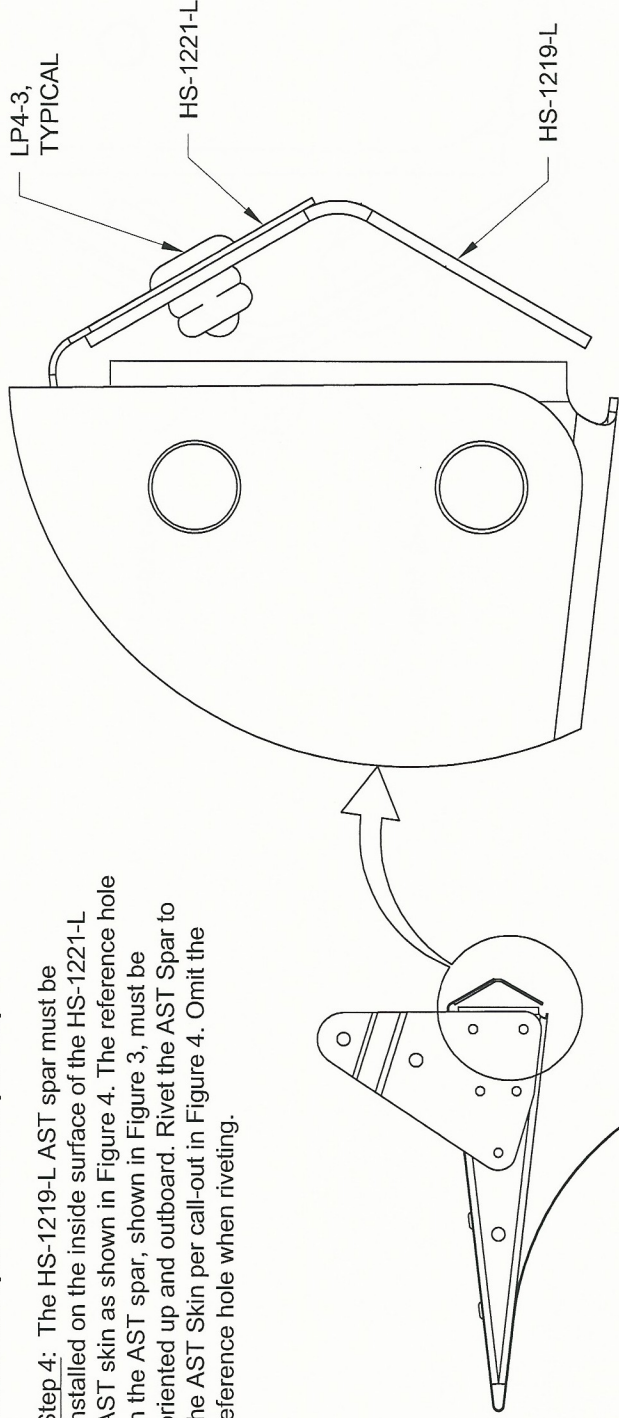

FIGURE 4:
Step 4: The HS-1219-L AST spar must be installed on the inside surface of the HS-1221-L AST skin as shown in Figure 4. The reference hole in the AST spar, shown in Figure 3, must be oriented up and outboard. Rivet the AST Spar to the AST Skin per call-out in Figure 4. Omit the reference hole when riveting.